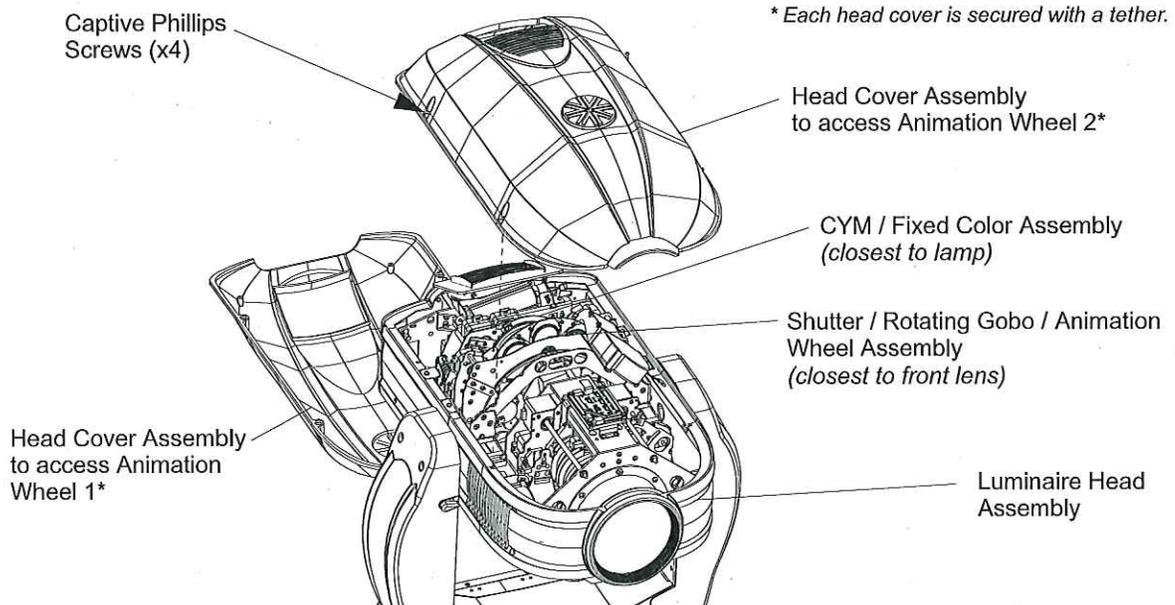

Figure A-10: Replacing Animation Wheels
- For Animation Wheel 1 (closest to the rear of luminaire), remove head cover assembly as indicated in Figure A-10 by loosening four captive screws and lifting cover away from luminaire head. Note, head cover is attached by a safety tether.
- For Animation Wheel 2 (closest to the front of luminaire), remove head cover assembly as indicated in Figure A-10 by loosening four captive screws and lifting cover away from luminaire head. Note, head cover is attached by a safety tether.